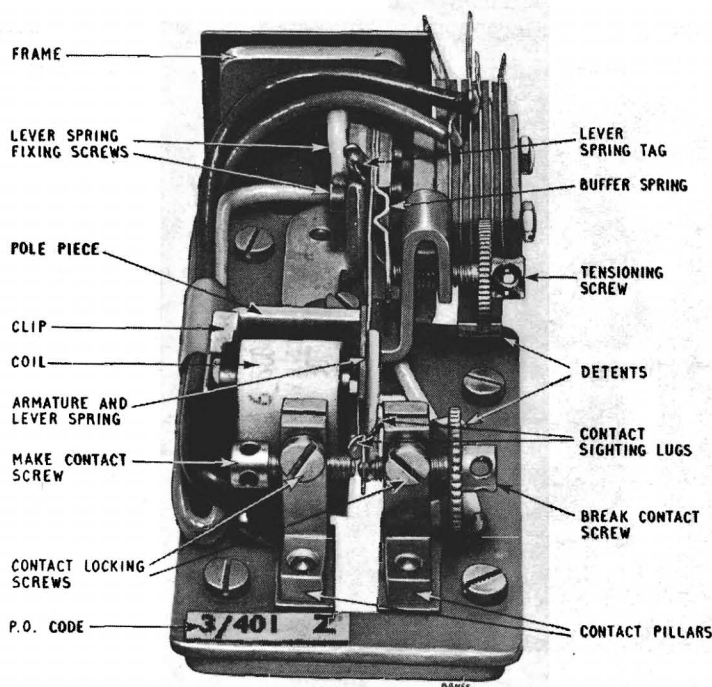

FIG. 1.—RELAY, HIGH-SPEED, NO. 3/401
1. Introduction.—This Instruction describes the maintenance and adjustment of Relays, High-speed, Nos. 3/401 and 3/402 which are single-contact high-speed relays. These relays mount in single 3000-type drillings and have one change-over contact unit with single platinum contacts. They supersede the Siemens' Relays Nos. 73 and 85 described in B 5159. Typical relays are shown in Figs. 1 and 2.